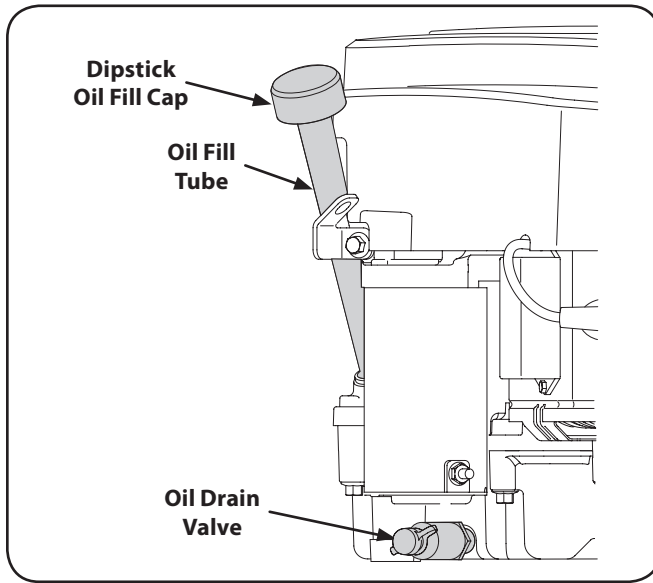

Figure 6-1
- Pop open the protective cap on the end of the oil drain valve to expose the drain port. Refer to Fig. 6-1. Remove the oil fill cap/dipstick from the oil fill tube.